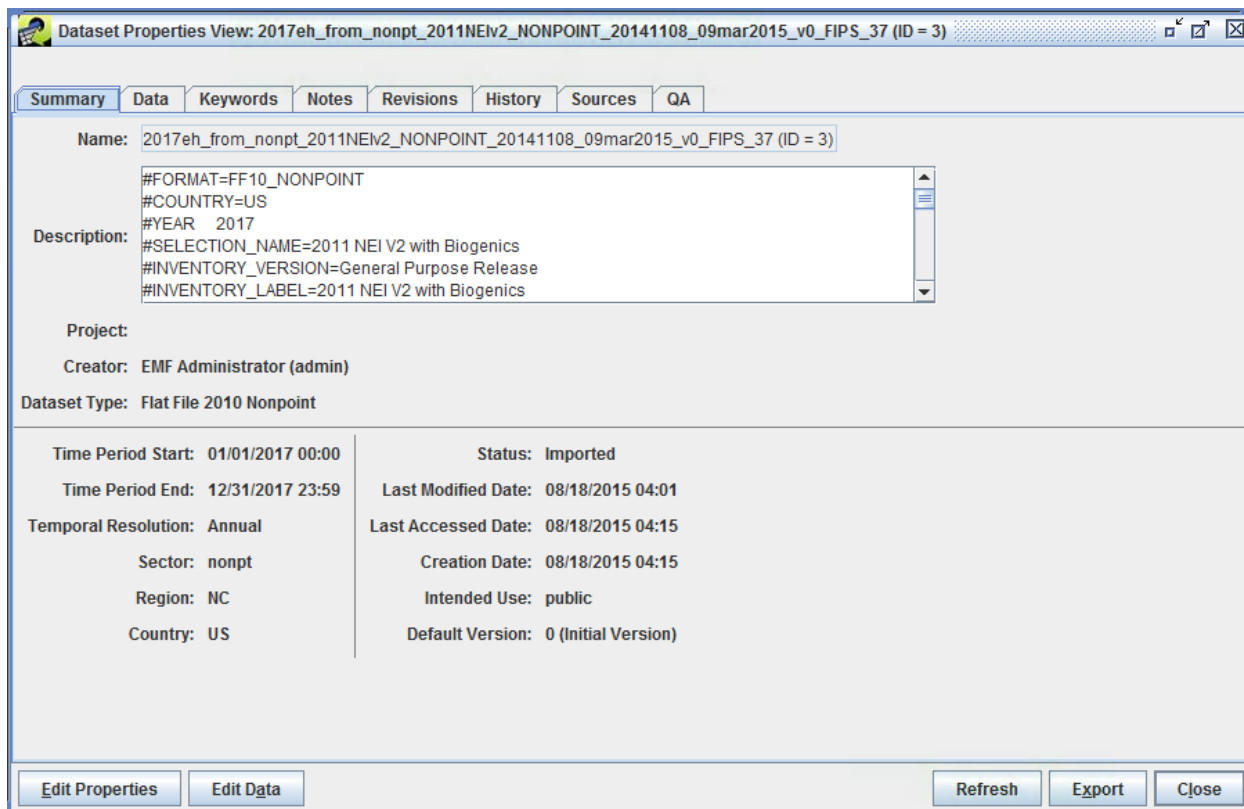

Figure 4.9: Dataset Properties View Window for an Emissions Inventory
Step 4-15: View Dataset Properties. To see the properties (i.e., metadata) for an inventory dataset, click the checkbox in the **Select** column of the **Inventories to Process** table and then click **View**. The **Dataset Properties View** window will appear (Figure 4.9). The **Dataset Properties View** window provides information about the selected inventory dataset and has multiple tabs as described in Table 4.5.